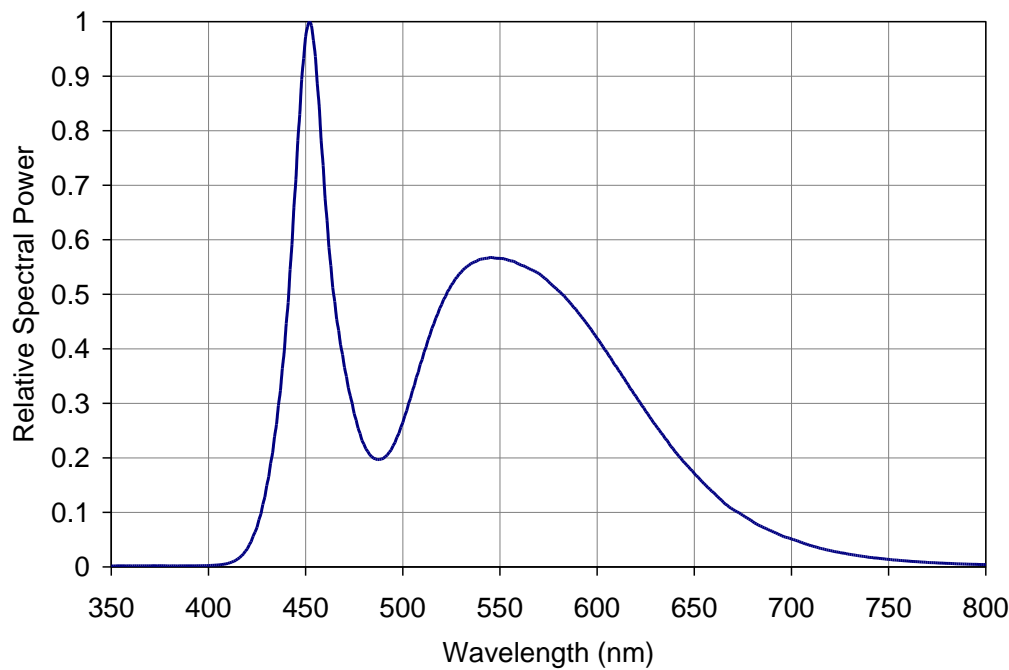

Figure 5: Relative spectral power vs. wavelength @ $T_C = 25^{\circ}\text{C}$
- Solder conditions per JEDEC 020D. See Reflow Soldering Profile Figure 5.